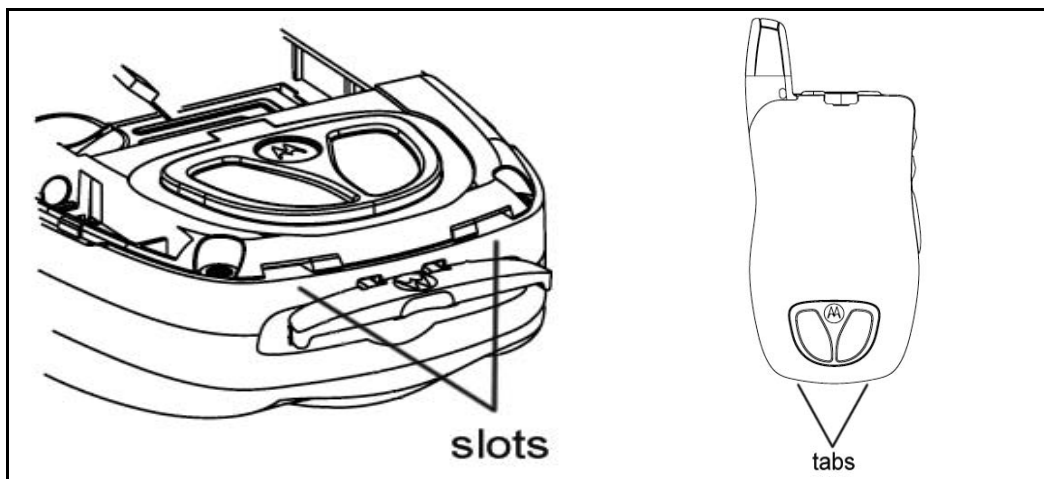

Figure 7-3.
1. Place bottom clips of cover into their respective slots (see Figure 7-3).